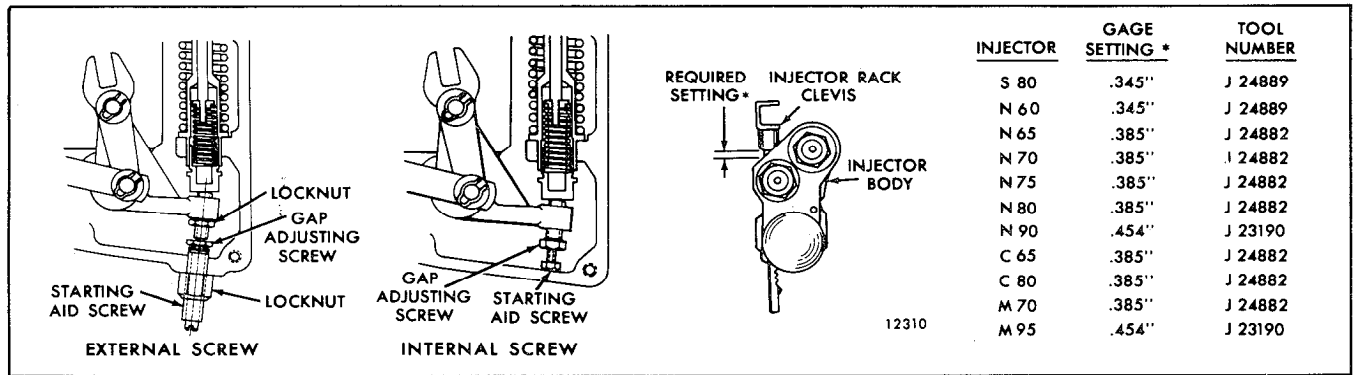

Fig. 7 - Starting Aid Screw Adjustment
The starting aid screw (Fig. 7) is threaded into the governor housing of current engines and into the governor gap adjusting screw of early engines. This screw is adjusted to position the injector racks at less than full fuel when the governor speed control lever is in the idle position. The reduced fuel makes starting easier and reduces the amount of smoke on start-up.
- b. Adjust the starting aid screw to obtain the required setting between the shoulder on the injector rack clevis and the injector body (Fig. 7). Select the proper gage and measure the setting at any convenient cylinder. When the starting aid screw is properly adjusted, the gage should have a small clearance of $1/64$ " (.397 mm) in the space along the injector rack shaft between the rack clevis and the injector body.
- b. Hold the gap adjusting screw, to keep it from turning, and adjust the starting aid screw to obtain the required setting between the shoulder on the injector rack clevis and the injector body (Fig. 7). The setting is measured at the No. 3R injector rack clevis.